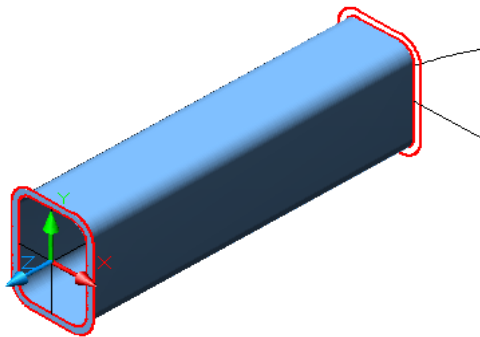

Figure Step 12
Step 12 Shaded, your model should appear as shown in Figure Step 12.